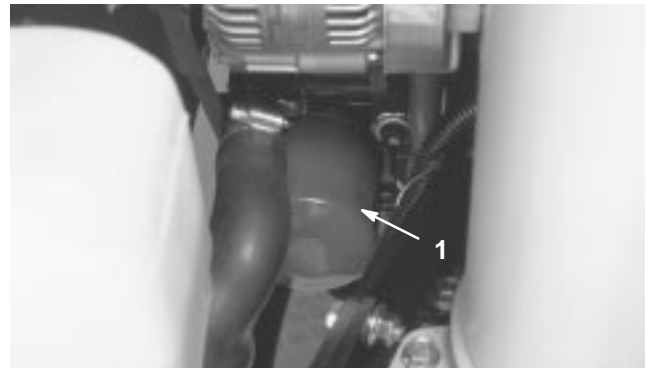

Figure 43
2. Remove the oil filter (Fig. 43). Apply a light coat of clean oil to the new filter seal before screwing it on. **Do not overtighten.**